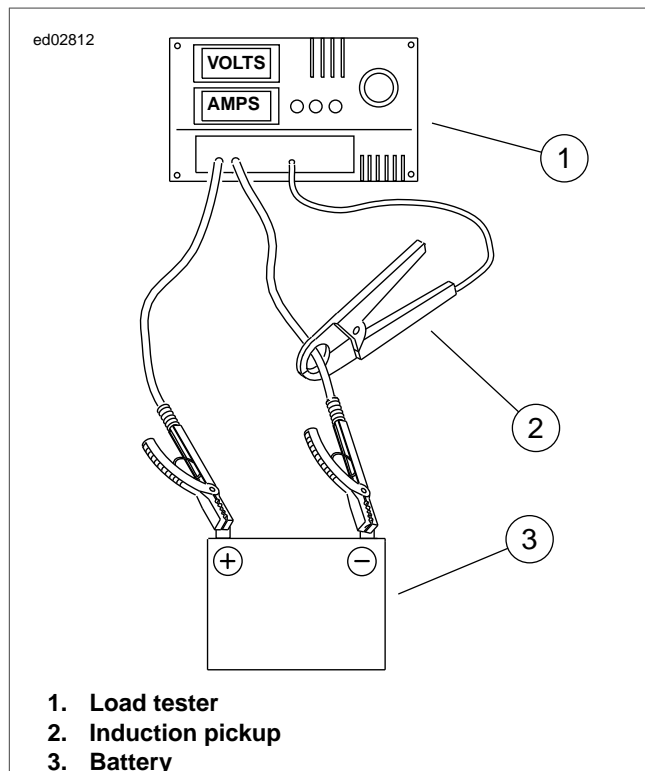

Figure 3-21. Load Test Battery
4. See Figure 3-21. Connect tester leads to battery posts and place induction pickup over negative (black) cable.